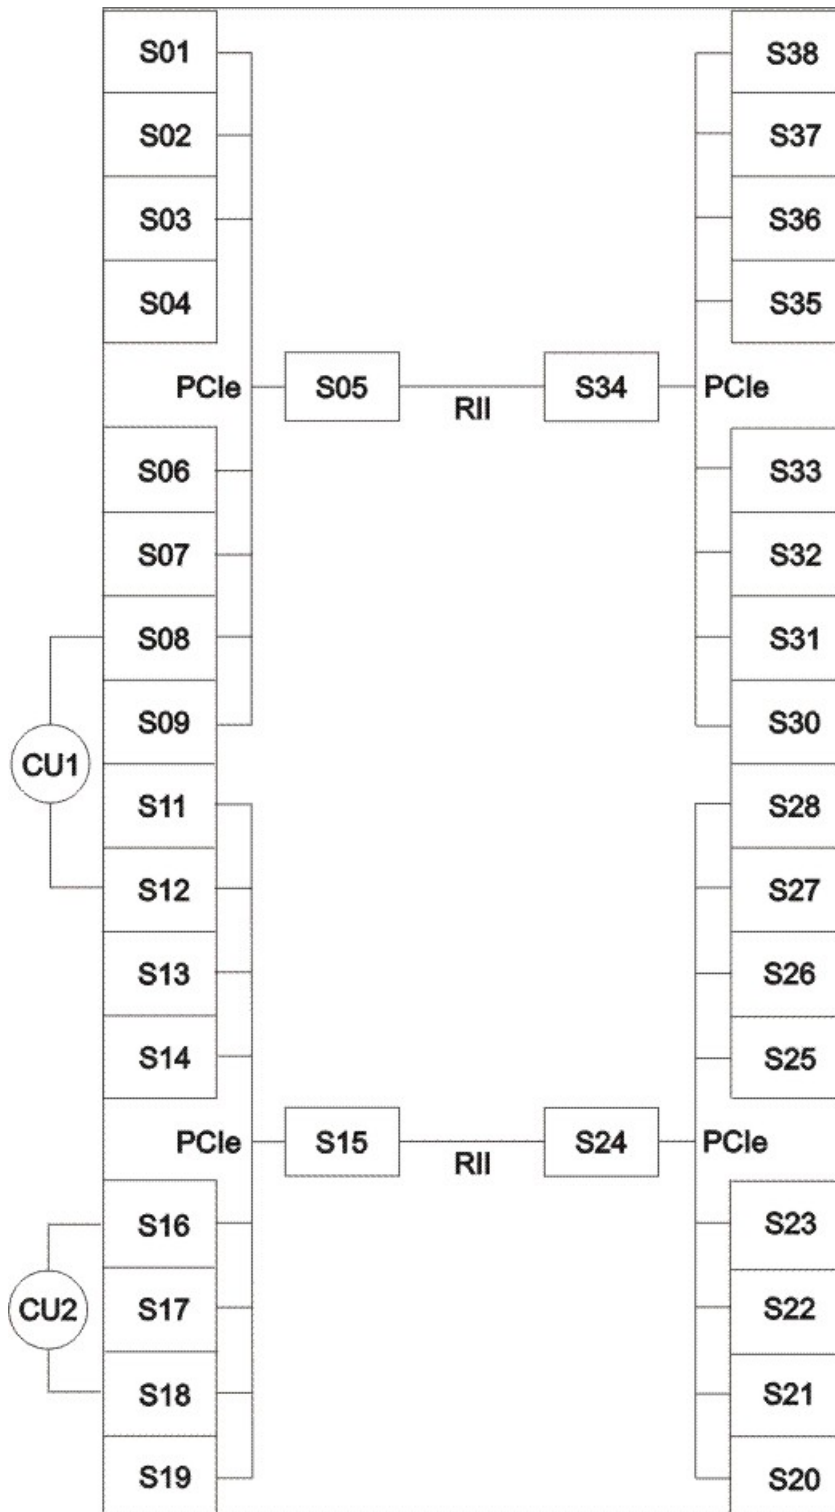
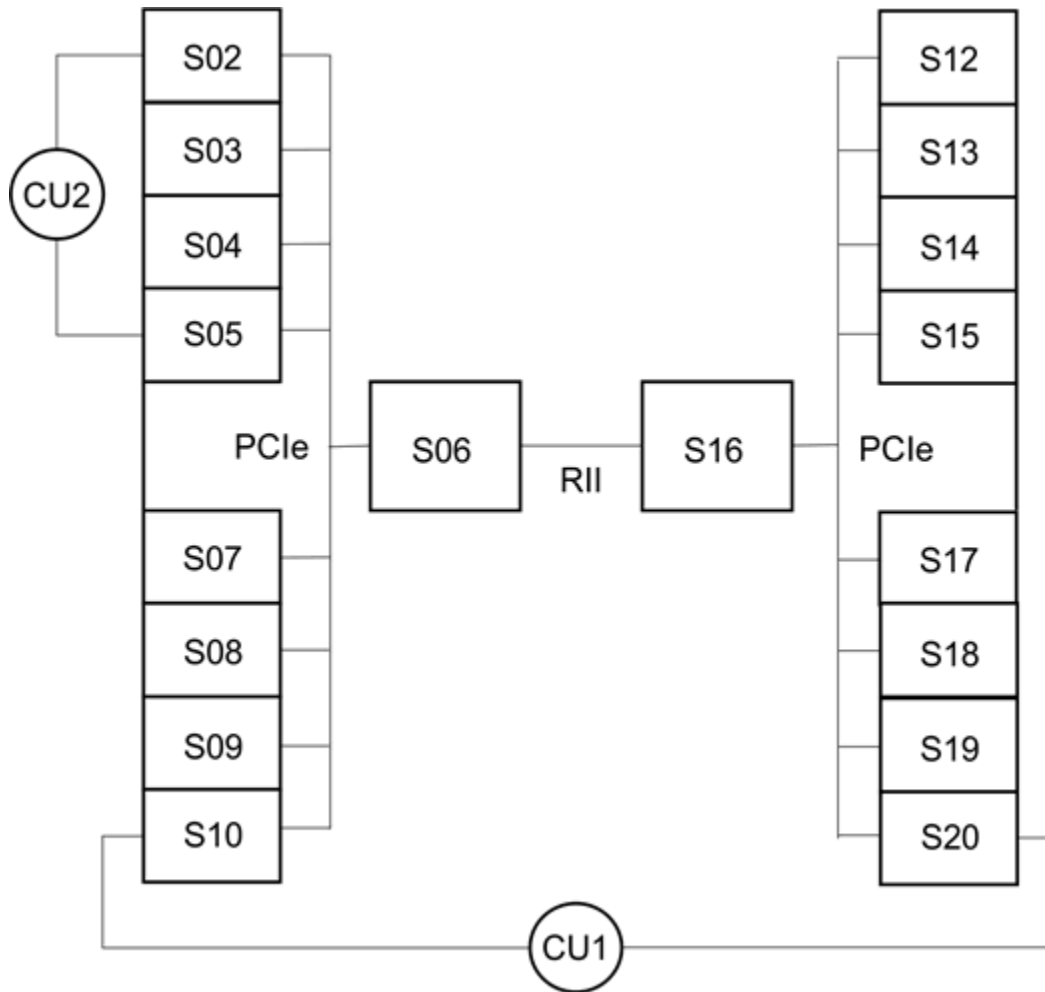
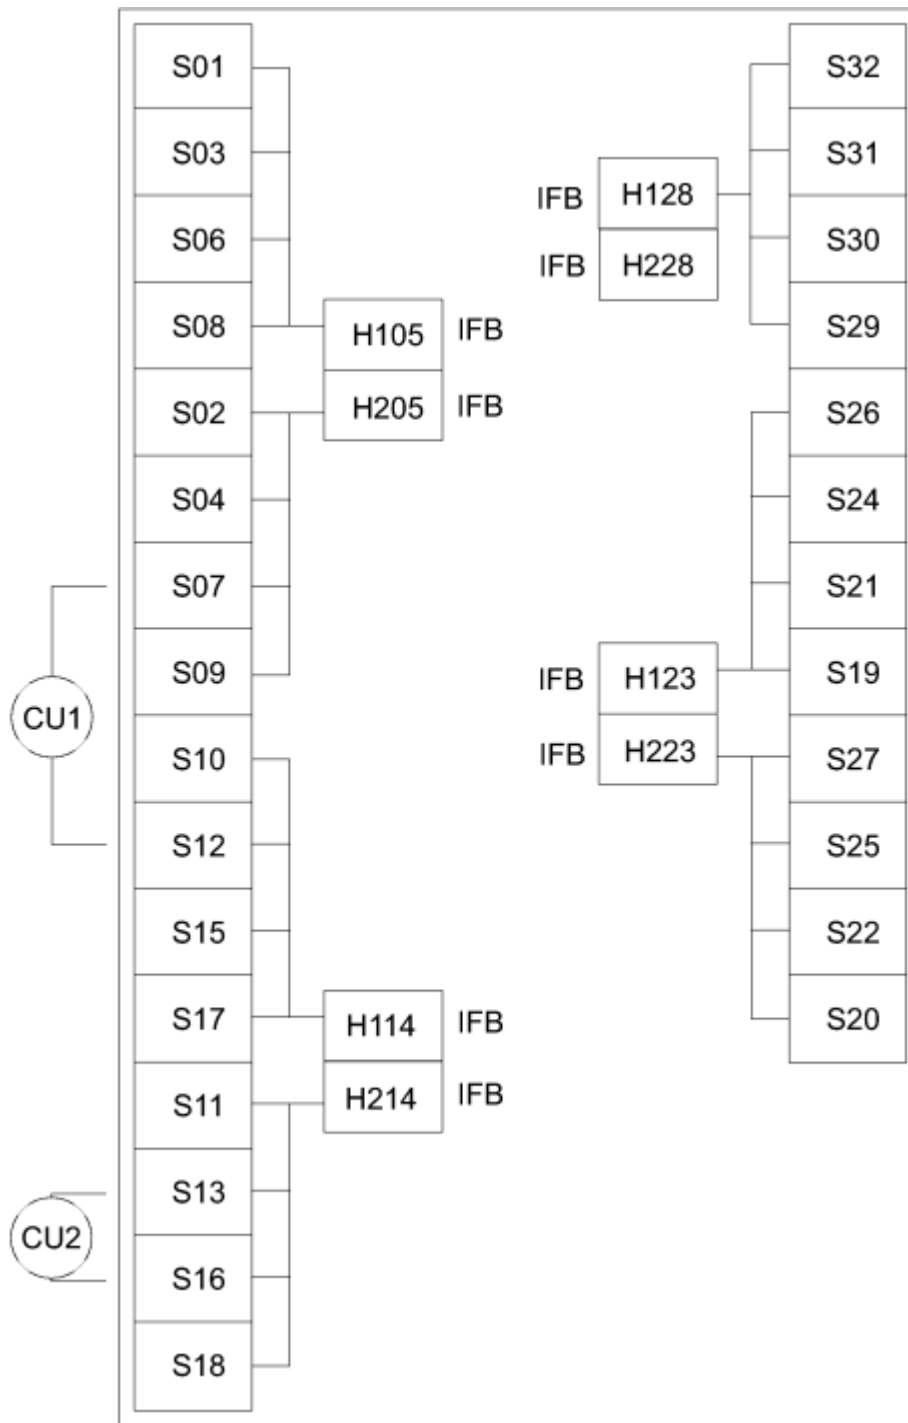
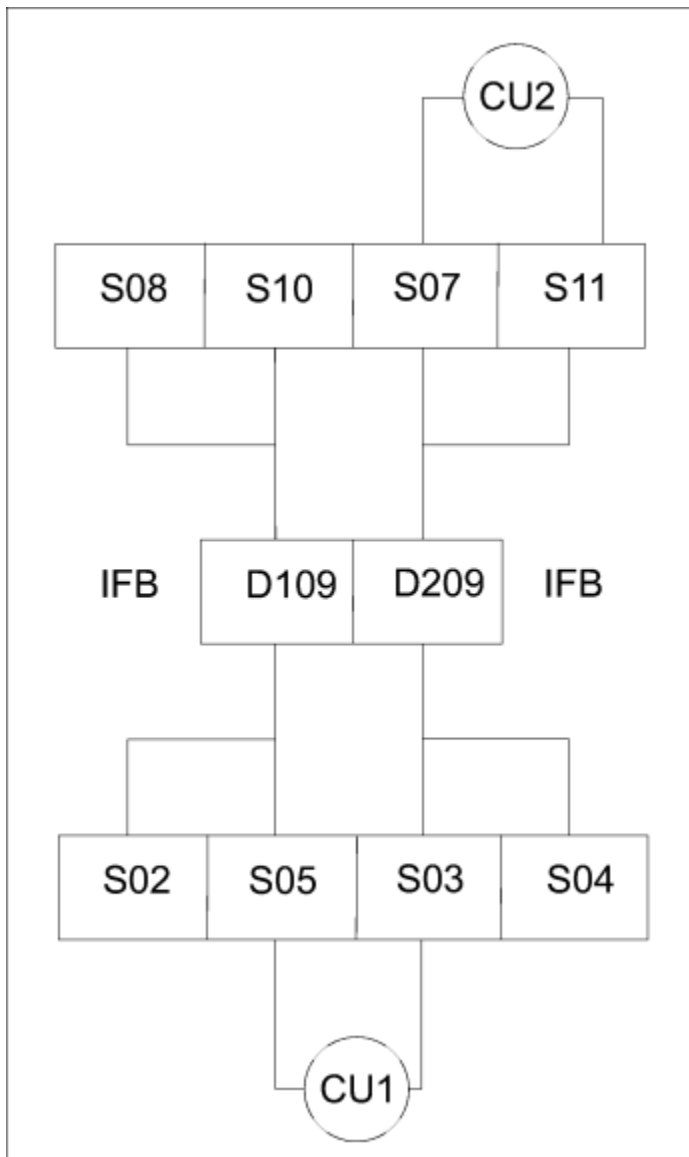

Figure 1. I/O channel path configuration for a representative PCIe I/O drawer in a 2817, 2818, 2827, 2828, 2964, 2965, and 3906 model
Figure 2. I/O channel path configuration for a representative PCIe I/O drawer in a 3932, 3931, 8562, 8561, and 3907 model
Figure 3. I/O channel path configuration for a representative I/O cage in a 2827 and 2817 model
Figure 4. I/O channel path configuration for a representative I/O drawer in a 2965, 2964, 2828, 2817, 2818, and 2827 model
**|** Figure 1 on page 2 and Figure 2 on page 3 show the major components of the input/output (I/O) subsystem for 3932, 3931, 8562, 8561, 3907, 3906, 2965, 2964, 2828, 2827, 2818, and 2817 models and suggests ways to configure I/O for maximum availability.
Figure 3 on page 5 and Figure 4 on page 6 shows the major components of the input/output (I/O) subsystem for 2827 and 2817 models and suggests ways to configure I/O for maximum availability.
When configuring devices with multiple paths to the same CPC, select any of the channel paths or PCIe functions shown in Figure 1 on page 2, Figure 2 on page 3, Figure 3 on page 5, or Figure 4 on page 6 that:
- Choose channels or PCIe functions plugged in different I/O domains (see CU 1). An I/O domain in an I/O cage or I/O drawer contains four I/O cards controlled by a single IFB-MP card. For example, the domain for the IFB-MP card in H105 in the I/O cage contains slots 01, 03, 06, and 08 (see Figure 3 on page 5) and in D109 in the I/O drawer contains slots 02, 05, 08, and 10 (see Figure 4 on page 6). An I/O domain in a PCIe I/O drawer contains eight I/O cards controlled by a single PCIe-IN card. For example, the domain for the PCIe-IN card in slot 05 in the 38-slot PCIe I/O drawer contains slots 1-4 and 5-9 (see Figure 1 on page 2) and in slot 06 in the 20-slot PCIe I/O drawer contains slots 2-5 and 7-10 (see Figure 2 on page 3).
Redundant I/O Interconnect is a function that allows one IFB-MP or PCIe-IN to back up another IFB-MP or PCIe-IN for a failure or repair. The IFB-MPs in slot 05 of the I/O cage back up each other (see Figure 3 on page 5). The same is true for IFB-MPs in slots 14, 23, and 28. In the I/O drawer, the IFB-MP cards in slot 09 back up each other (see Figure 4 on page 6). The PCIe-IN cards in slots 05 and 34 of the 38-slot PCIe I/O drawer back up each other (see Figure 1 on page 2). The same is true for the PCIe-IN cards in slots 15 and 24. Also, the PCIe-IN cards in slots 06 and 16 of the 20-slot PCIe I/O drawer back up each other (see Figure 2 on page 3). Therefore, in the event an InfiniBand or PCIe cable, fanout card, or book fails, the remaining IFB-MP or PCIe-IN card controls both domains. Certain failures (for example, the IFB-MP or PCIe-IN card) might prevent the redundant takeover, which is a reason to spread your paths over multiple domains.
**Note:** The examples shown in Figure 1 on page 2, Figure 2 on page 3, Figure 3 on page 5 and Figure 4 on page 6 merely try to illustrate availability guidelines and do not represent overall optimal configurations.